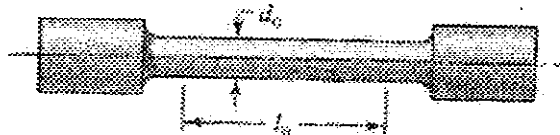

Figure-1
- (b) A steel specimen shown in figure -1, used by SAE laboratory to performed standard tension test on UTM for evaluating several mechanical properties.